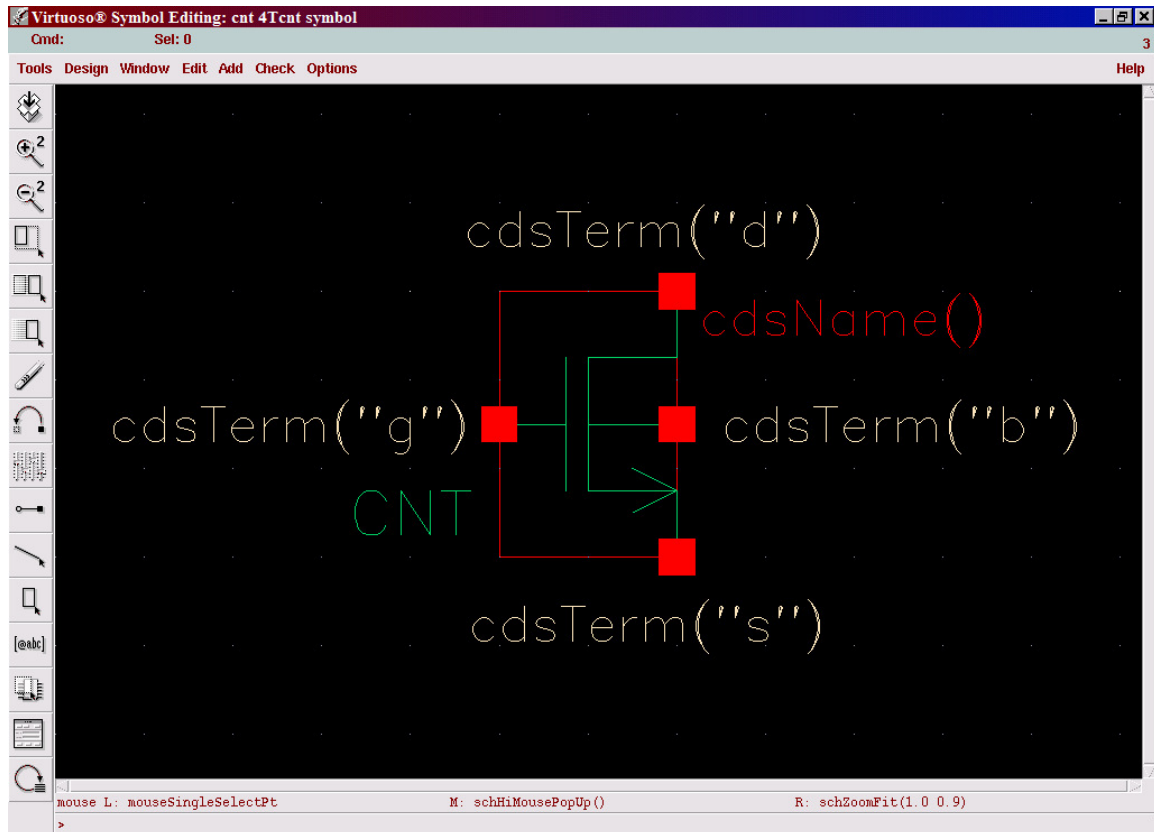

Fig. 1: CNT Symbol
1. Create a four-terminal symbol as shown in Fig. 1 (Any four-terminal device symbol will work) with the pins as d,g,s,b.